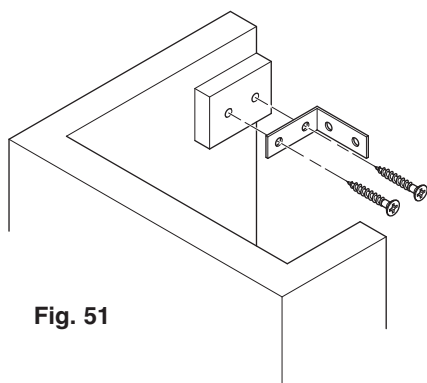

Fig. 51
3. For the four-piece slip set - after measuring the correct position, fix the legs to the wall (Fig. 51). The slips can then be placed in position, though not fixed. The back panel can now be centred and fixed using mastic or suitable adhesive and the edges filled and sealed with lime mortar and finally back filled as necessary.